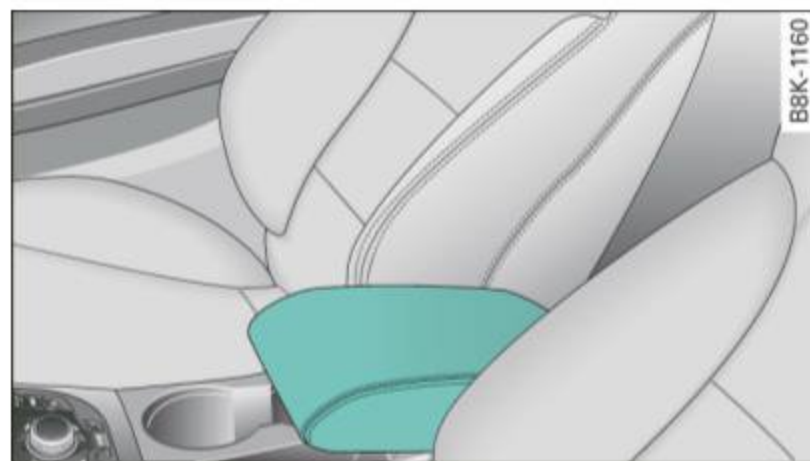

Fig. 76 Armrest between the driver's/front passenger's seats.
- To adjust the angle, raise the armrest from the starting position detent by detent ⇒ fig. 76.